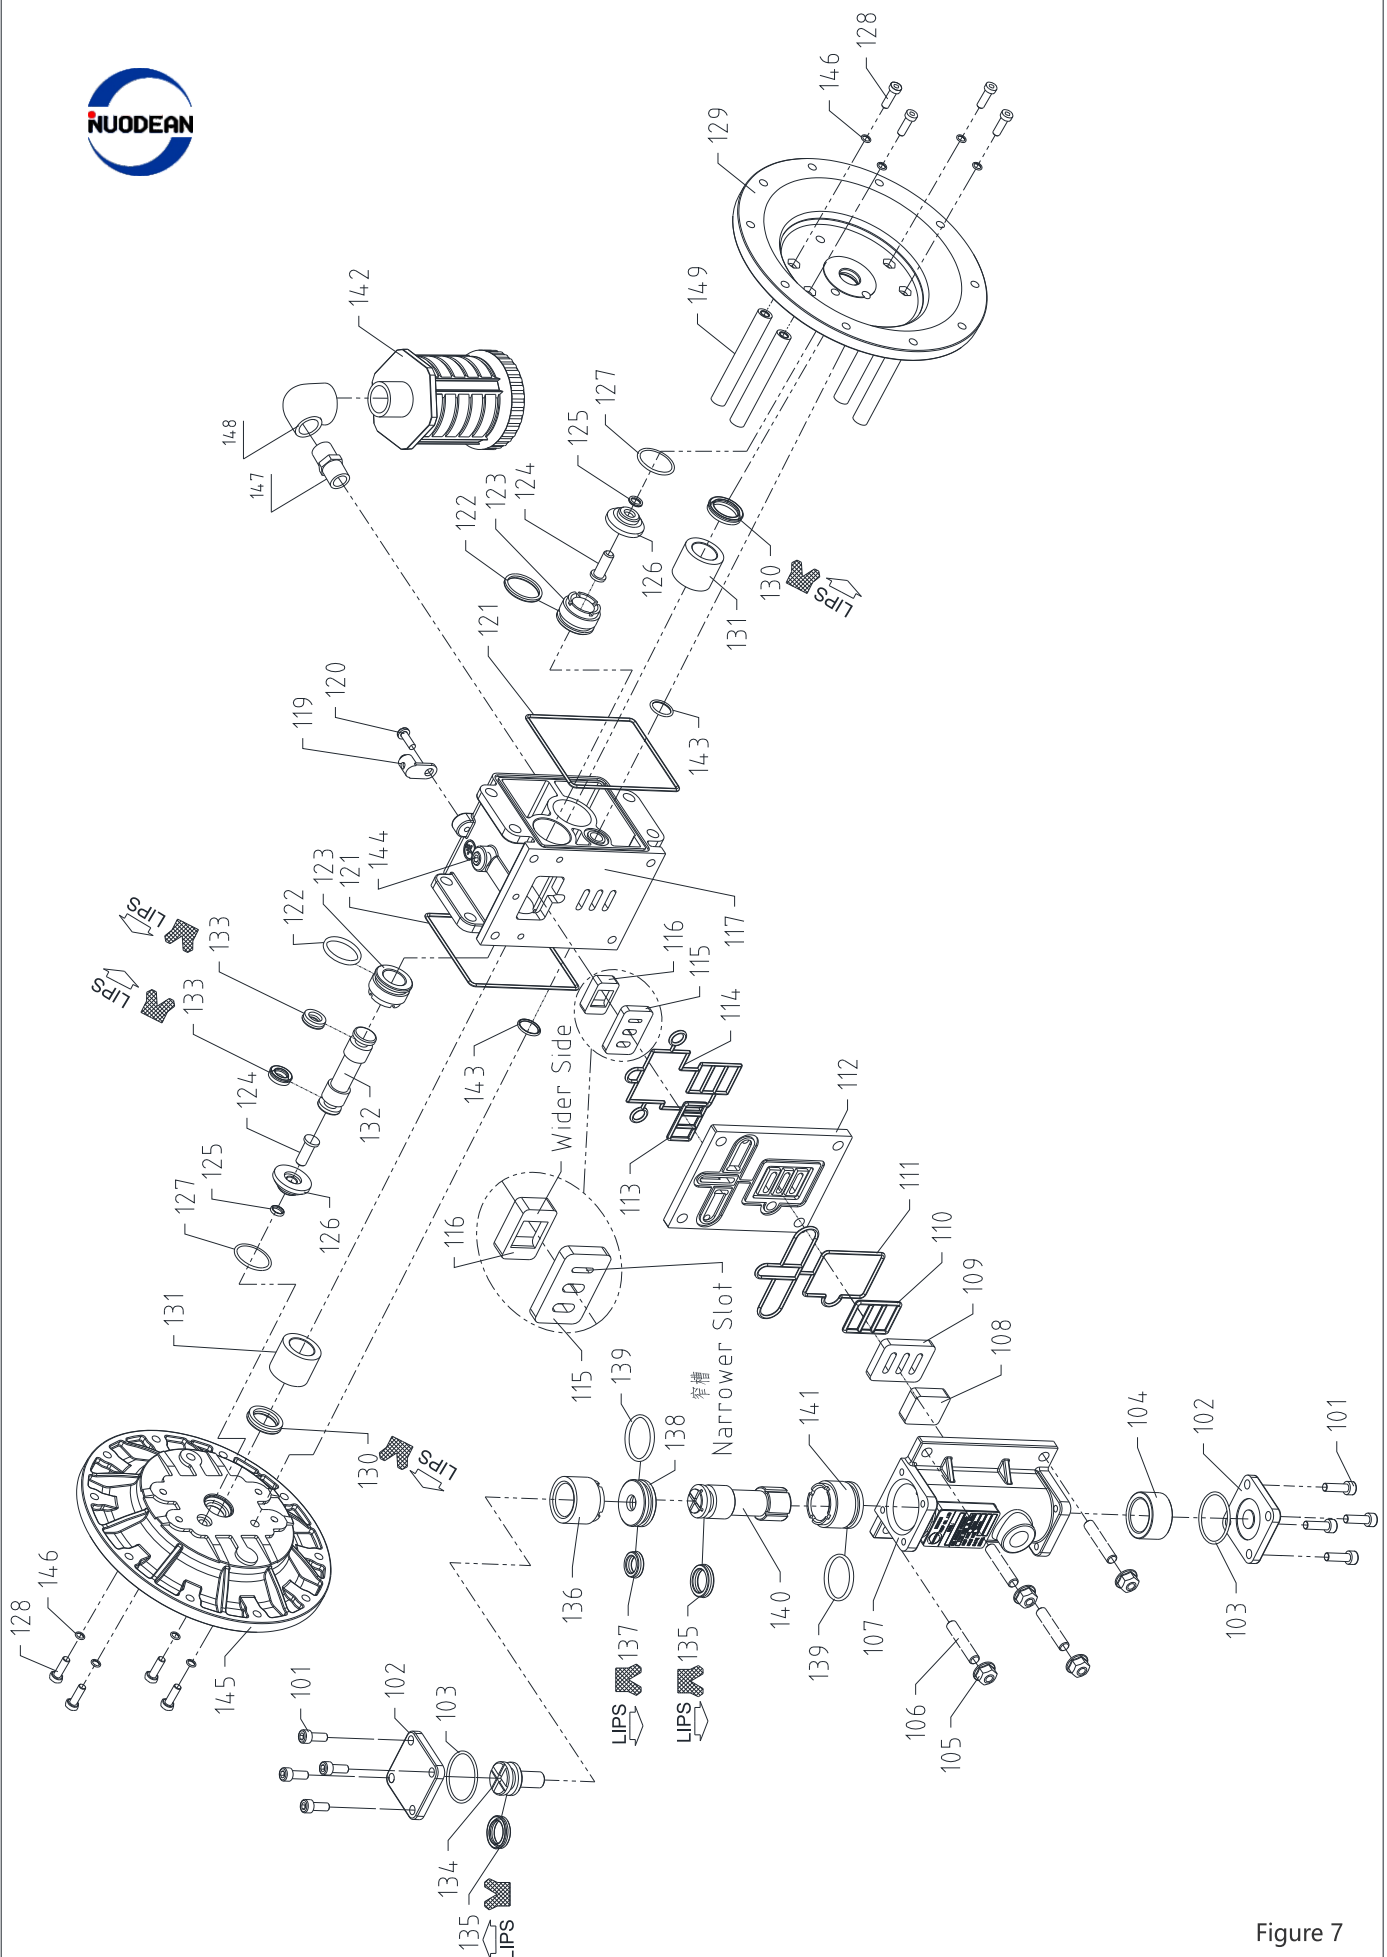

Figure 7
- 3.Remove (128), (145), (129), (146),(121), and (143). See figure 4 & figure 7.